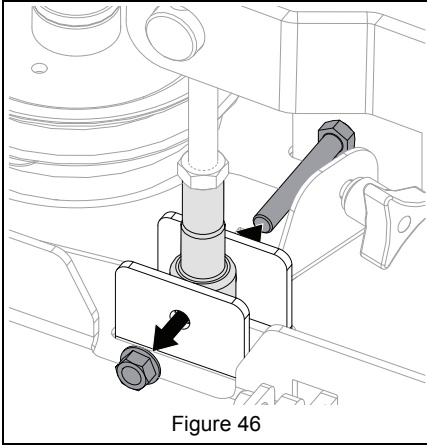

Figure 46
- Remove hardware retaining deck lift links. Retain hardware for reinstallation. See Figure 46.